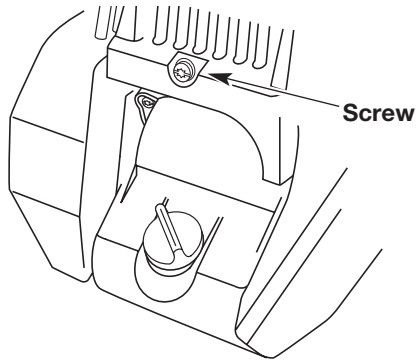

Fig. 52
3. Remove the screw behind the engine cover (Fig. 52).
6. Remove the engine cover (Fig. 52).